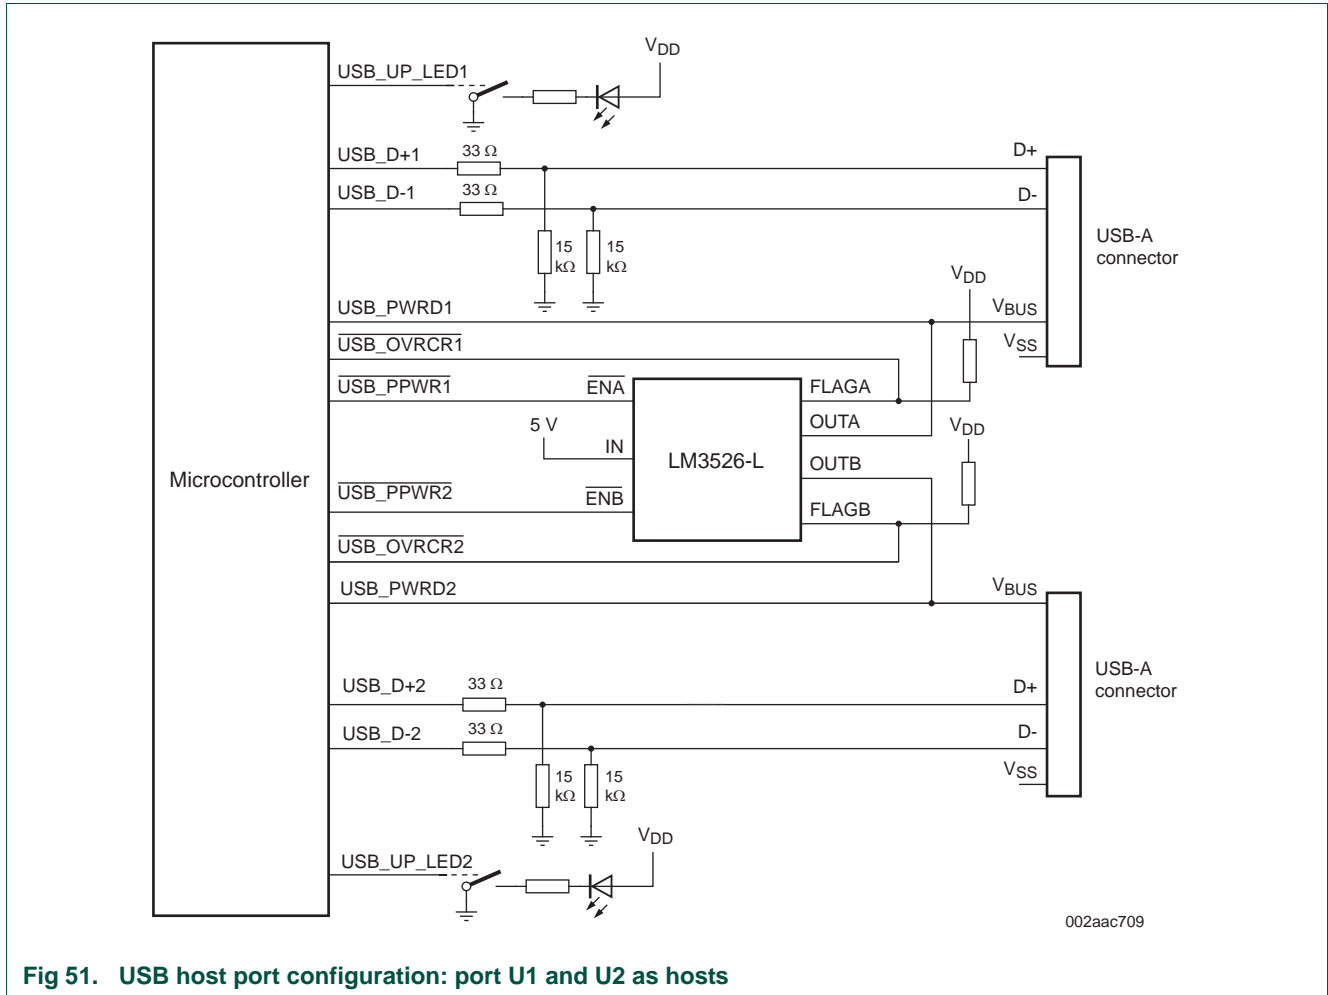

Fig 51. USB host port configuration: port U1 and U2 as hosts
- Two Host ports (see Figure 51)